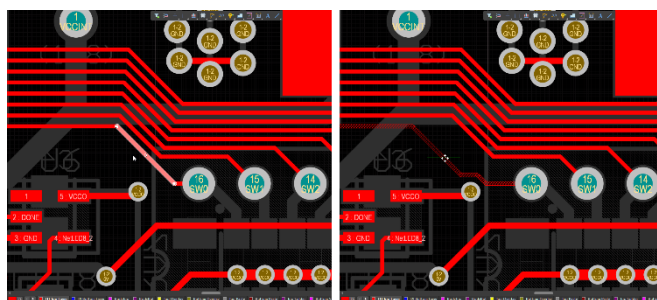

Figure 22. Click to select a segment, then click and hold to slide that segment
- Click once to select a diagonal segment of SW0, as shown in Figure 22.
- Position the cursor so it is over the selected track segment, it will change to a double headed arrow , as shown in Figure 22.